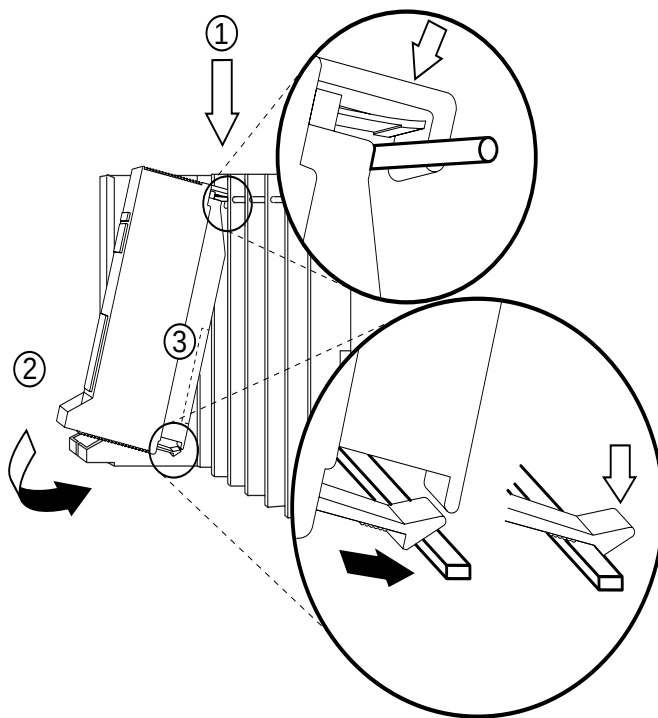

Figure 9-4. Replacing a Module in the Carrier
- ▶ **4. Reinstall the power supply module by hooking it onto the rod at the top of the carrier and then swinging it down into place. See Figure 9-4.**
- ▶ 11. Replace the processor module into the carrier. Figure 9-4 on page 9-13.